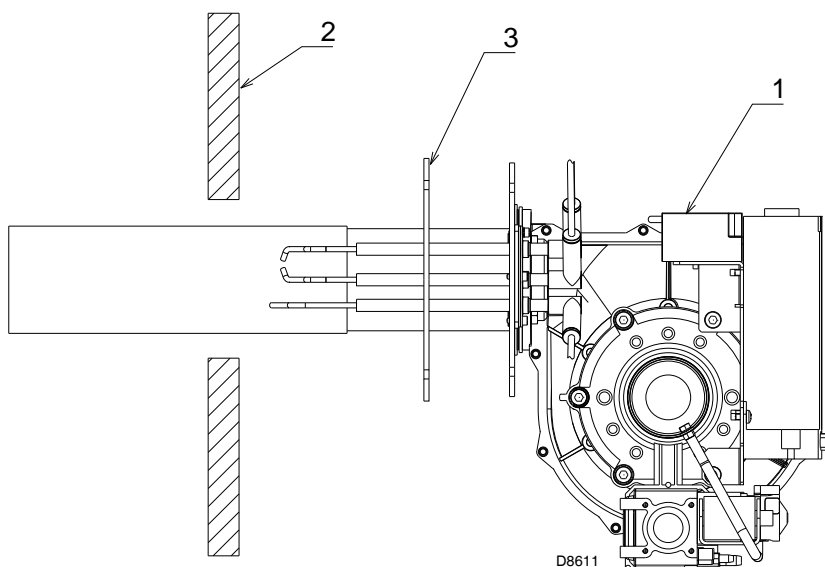

Fig. 5
► fasten the burner 1)(Fig. 5) to the boiler's door 2) by means of four screws and (where necessary) 4 nuts M8, placing the insulating gasket 3) between the two.